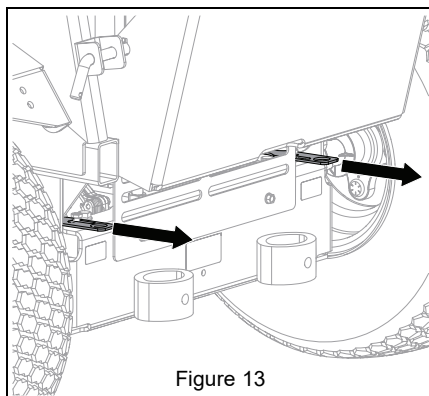

Figure 13
4. Pull both transaxle bypass levers out into bypass position. See Figure 13.